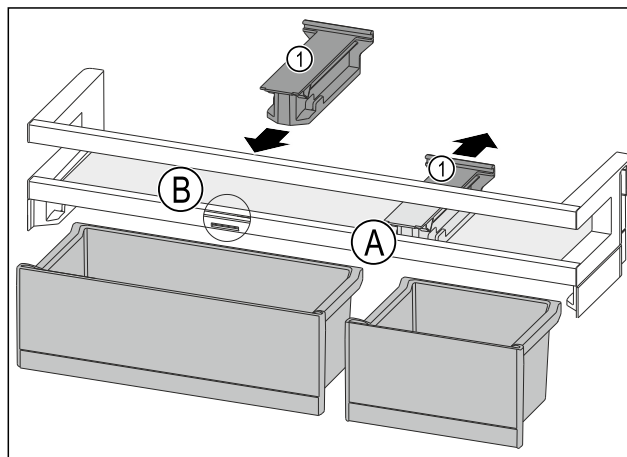

Fig. 196
- Take off the holding part Fig. 196 (1) in position Fig. 196 (A) backwards.
- Insert the holding part Fig. 196 (1) in position Fig. 196 (B).